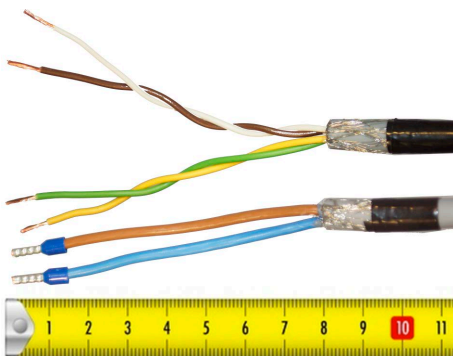

Figure 8: Cable Preparation Sending Cable Sides
4. Attach the remaining visible grounding shield to the metal saddle on the rear of the instrument. See *Figure 8: Cable Preparation Sending Cable Sides* on page 13.